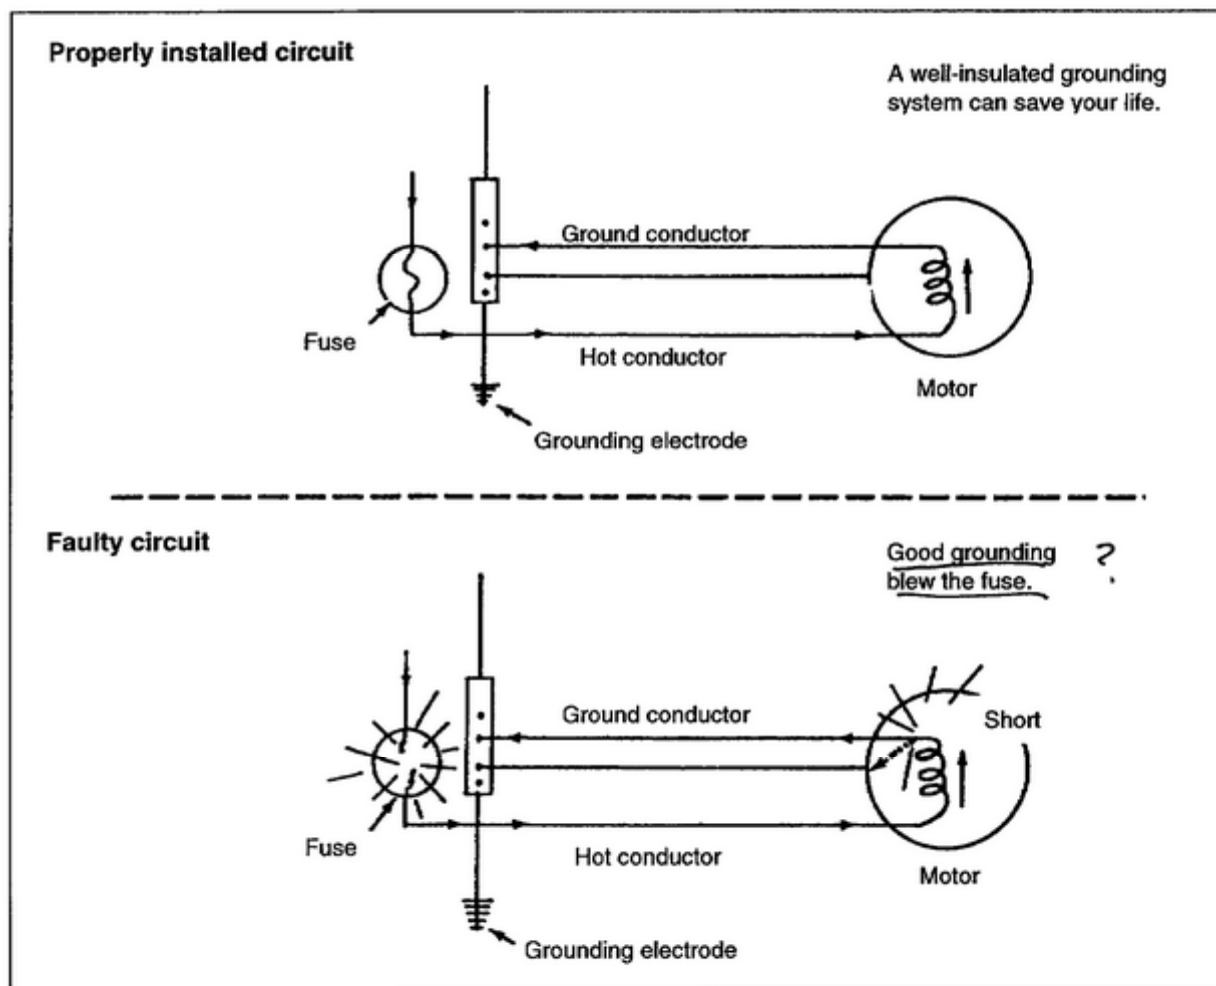

Figure 2-7. Properly installed and faulty circuits
a. Table 2-2, page 2-5, shows the minimum size ground conductor that can be used for grounding equipment or raceways. Each ground conductor in the table has the capacity to safely carry the current required to blow a fuse or trip a circuit breaker (Figure 2-7).